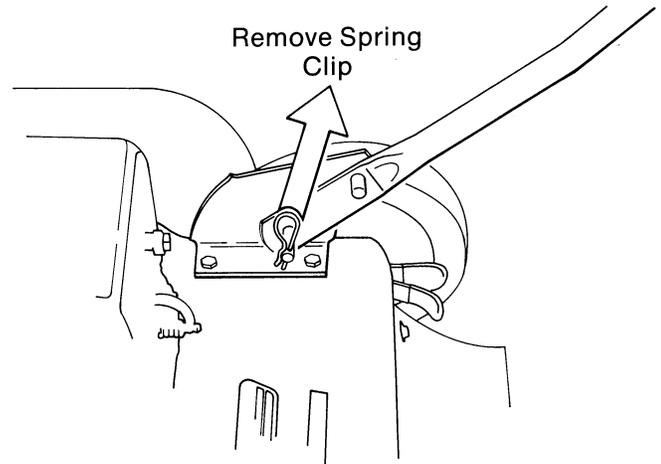

FIG. 7
2. Remove spring clips from mounting pins of handle support brackets at lower end of lower handle (Fig. 7). Press the ends of lower handle inward just enough to clear ends of mounting pins. Turn the lower handle over and reinstall on the mounting pins by pressing lower ends together and position handles so that all four pins are through holes in handle ends. Replace the spring clips through lower mounting pins on each handle support bracket.